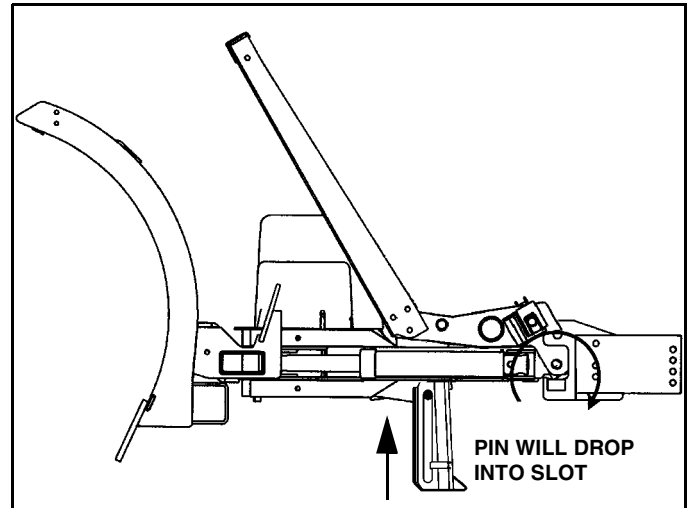

Figure 1-18
3. Rotate light/lift bar into position by turning on down pressure and pressing the lower button. (See Figure 1-18).